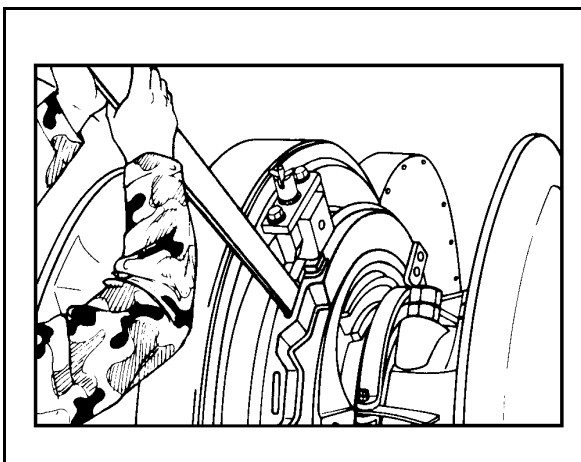
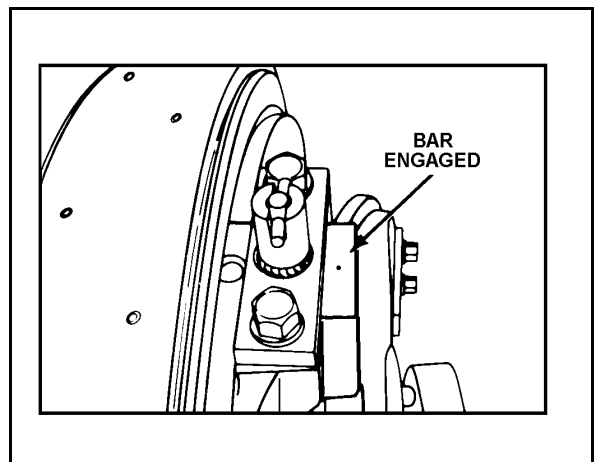

Figure 21-24. Engaging Wildcat
Figure 21-25. Wildcat Engaged
- Using the anchor bar, turn the locking ring to engage the wildcat (Figure 21-24, page 21-20). Figure 21-25, page 21-20, shows the wildcat engaged.